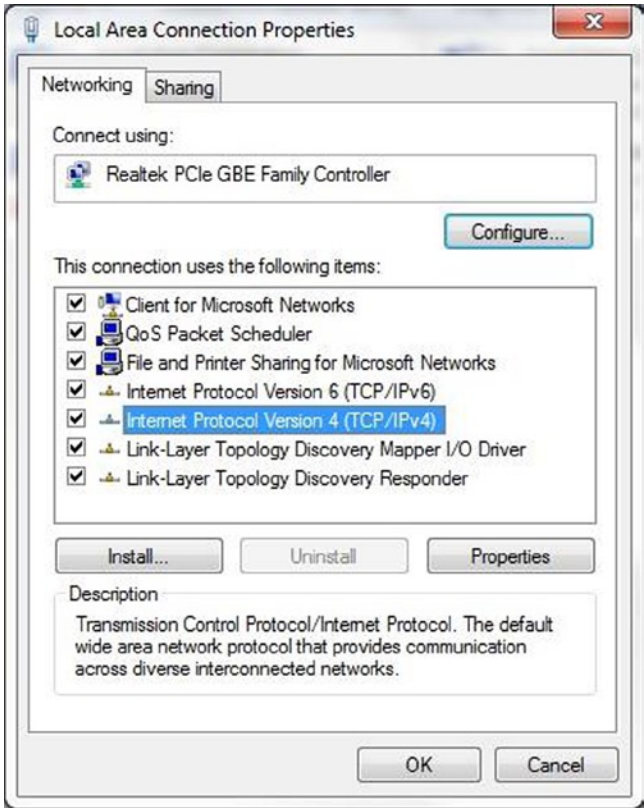

Figure 5-6. Local area connection properties
2. Click on Change Adapter Settings and right-click on Local Area Connection. The Local Area Connection Properties will be shown, as shown in Figure 5-6.